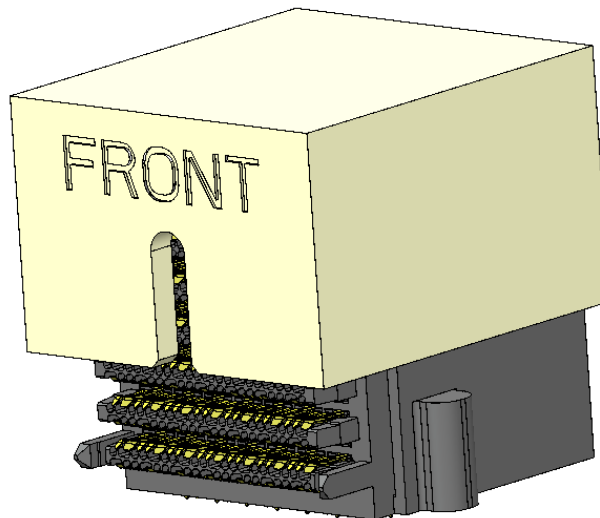

Figure 30: Placing Insertion Tool on Top of RAOH Connector
- Begin by placing insertion tool specified in table 12 over the top of the RAOH connector as shown in figure 30. The same tool is used for both guided and non-guided assemblies.